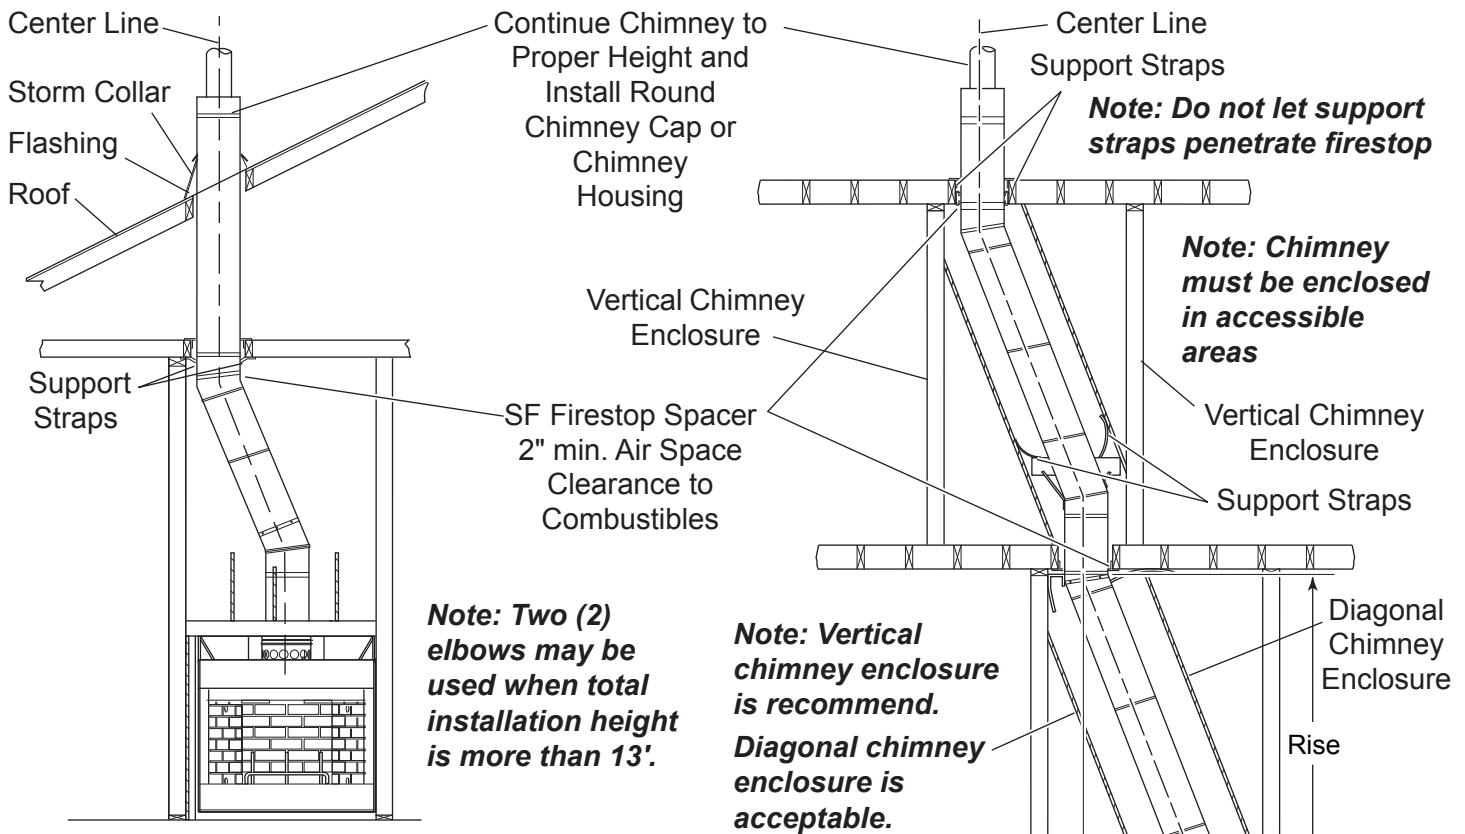

Figure 22 - Installing Chimney with Total Height of Fireplace and Chimney 13' or More
4. Inclined portions of chimney is often used as storage. Enclose the inclined portions of chimney that pass through living spaces to avoid contact with and possible damage to chimney. Maintain minimum air space of 2" between chimney and enclosing. *See Figures 22 and 23.*